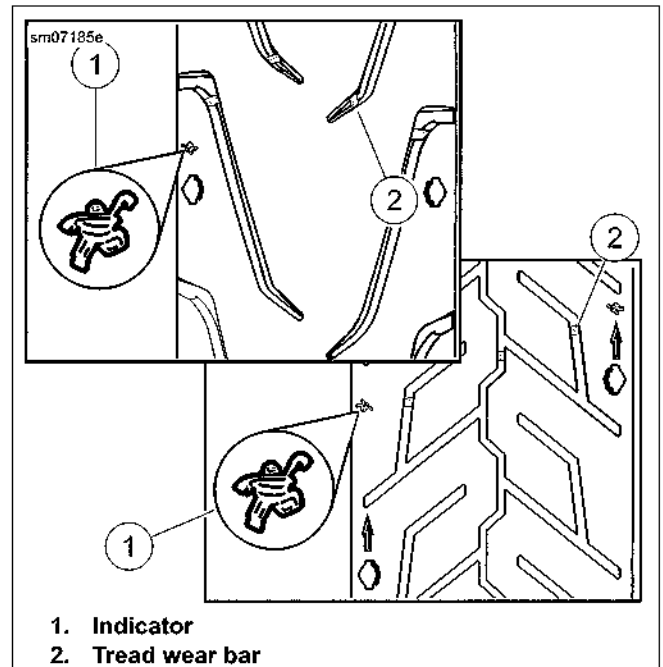
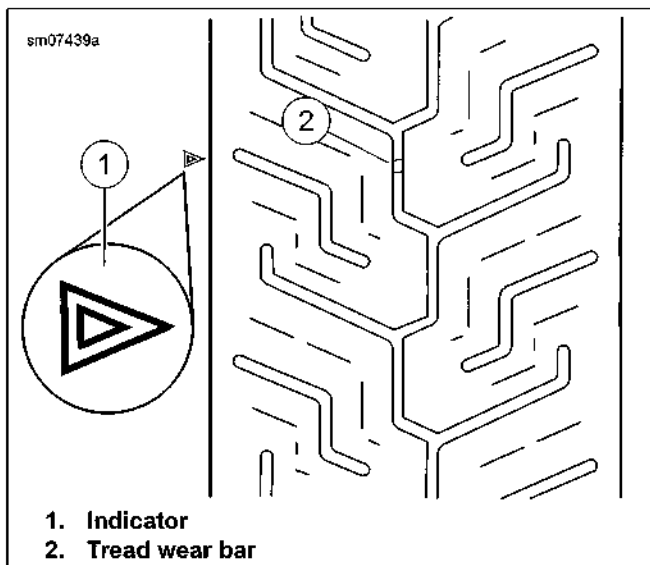

Figure 1-10. Tread Pattern: Michelin Tires
Figure 1-11. Tread Pattern: Dunlop Tires
- See Figure 1-10 or Figure 1-11. Indicators (1) on the tire sidewalls point to tread wear bars (2) in the tread.